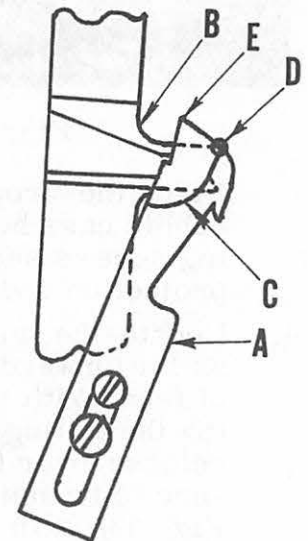
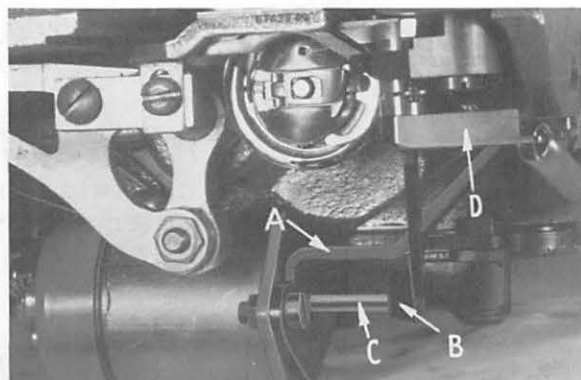
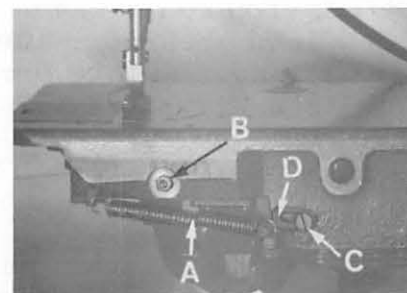

Fig. 30
Fig. 32
Fig. 33
4. Locate the cutting solenoid bracket (A, Fig. 32) as far forward as possible and parallel with the line of feed. With the cutting solenoid lever (B) contacting the cutting solenoid plunger (C), adjust the pivot release lever (D), so that there is a 1/32 inch clearance to be maintained when knife return spring (A, Fig. 33) is in position.
5. Adjust the lower knife stop screw (B, Fig. 33) so when the lower knives in its extreme right hand position, the left corner (E, Fig. 30) is in line with the left side of the needle slot in the bobbin case holder.
7. Knife return spring (A, Fig. 33) to have proper tension to cut threads. To adjust tension of knife return spring loosen screw (C) and move tension spring bracket (D) to the right to increase tension or to the left to decrease the tension.